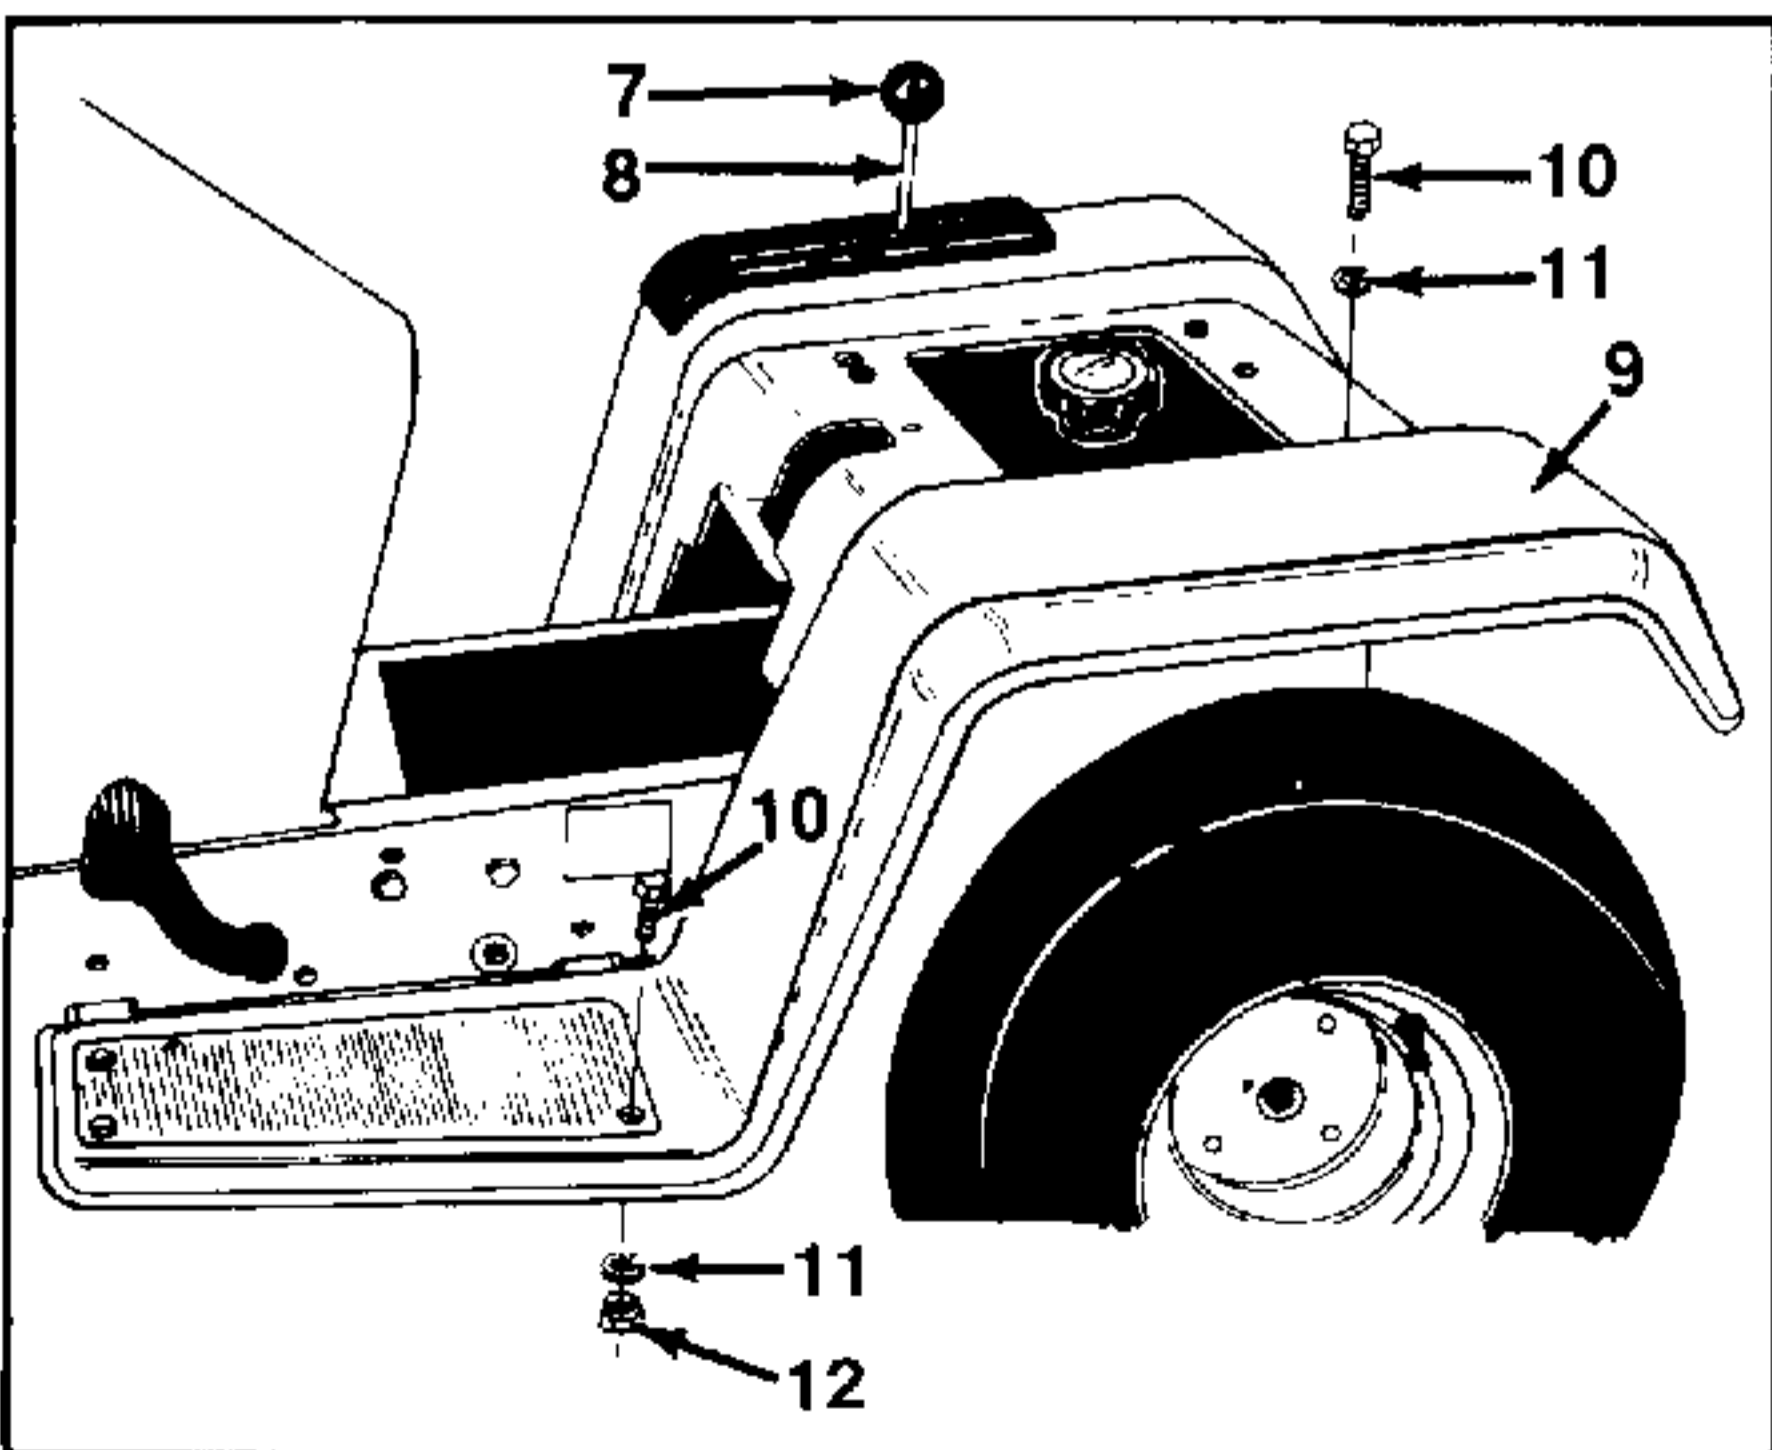

FIGURE 3.
4. Position the shift lever to neutral. Remove the speed ratio gear knob (Ref. 7), from gear lever (Ref. 8). See figure 3.
6. Remove six more bolts (Ref. 10), lock washers (Ref. 11) and hex nuts (Ref. 12). See figure 3. There are three on each side of fender assembly at running boards.